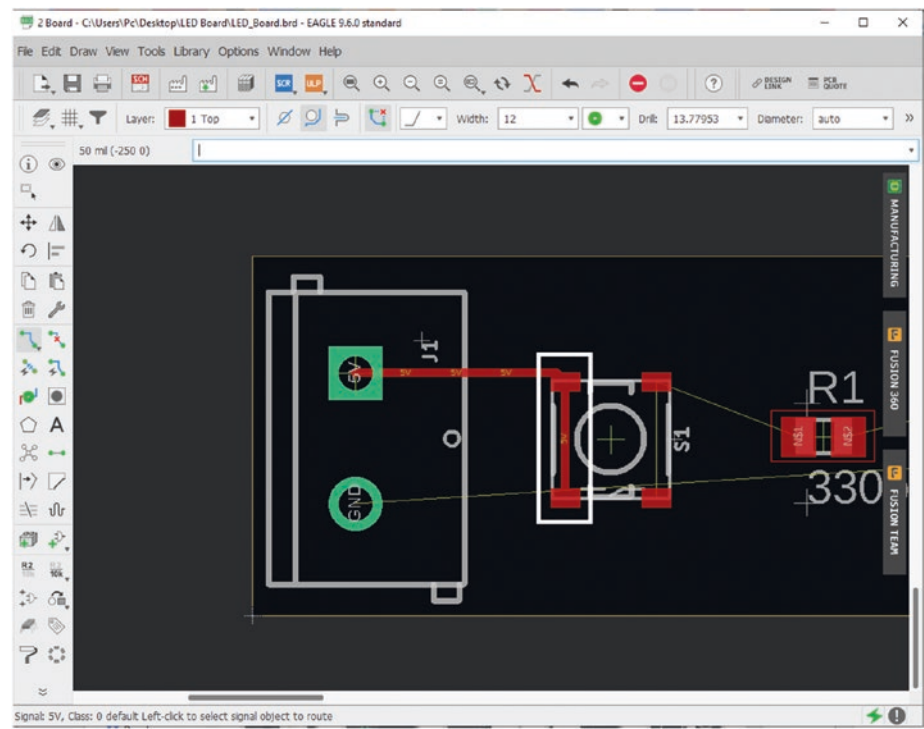

Figure 5-72. *Connect 5V lines*
- 21. Left-click from the 5V contact on the push button (S1) and drag your mouse to connect the route to the other 5V contact on the push button (S1). See Figure 5-72.